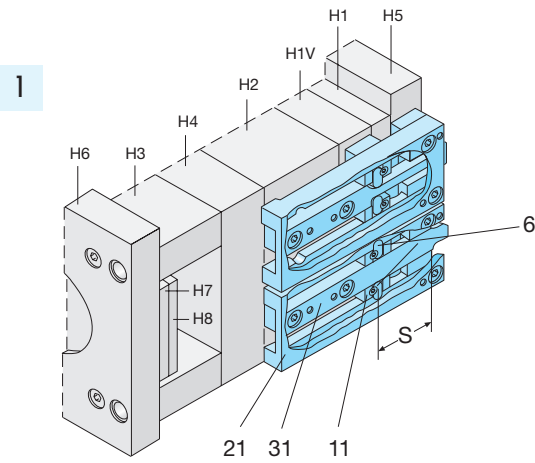

Figure 2
The bearing support (2) and wear plate (15) and the side track (3) are to be incorporated into the mould plates by the dimensions shown in the catalogue (see fig. 2). Ensure adequate clearance for the latch lever. After determining the desired mould opening stroke (S1), bolt down the cam plate (5) and, after fine adjustment of all the latch locks, secure with pins (see figs. 3, 4 + 5).